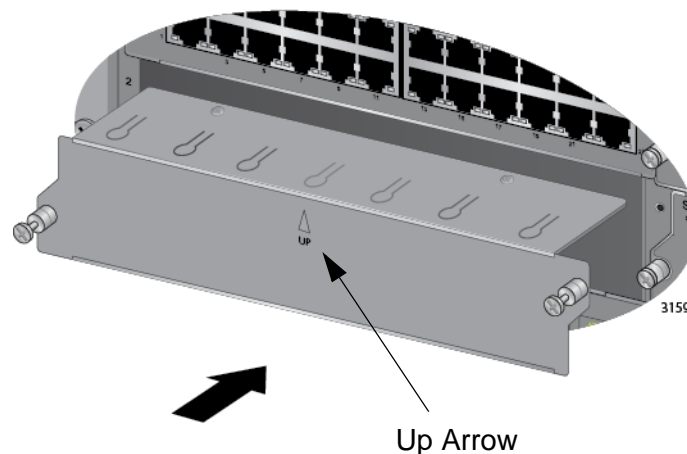

Figure 96. Installing a Blank Slot Cover
1. Position a blank slot cover over an unused chassis slot, as shown in Figure 96. The up arrow on the panel must be pointing up.